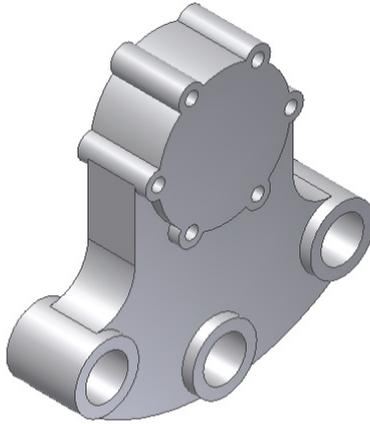

Figure 6-141 Model after creating the circular pattern of the join feature and the hole
- e. Create the circular patterns of the last join feature and the hole, refer to Figure 6-141.
5. Accept the other default values and choose **OK** to create the circular pattern. The model after creating the pattern is shown in Figure 6-141.